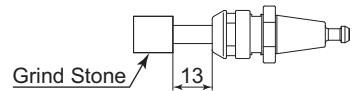

Fig. 17
- (1) The proper surface speed for general grindstones is 10 - 30m / s.
- (2) Do not exceed 13mm of overhang for mounted grindstones as shown in Fig. 17. If the overhang must exceed 13mm, reduce the motor speed in accordance with Table. 3.
- (3) Dress the grindstone prior to use.
- (4) Do not use cutting tools with bent or broken shanks, cracks or excessive run-out.
- (5) For grinding, the maximum depth of cut should not exceed 0.01mm radially or axially. Reciprocate the tool several times after each pass to eliminate tool pressure.
- (6) Always operate cutting tools within the allowable recommended speed of the cutting tools. Use of a cutting tool outside of the allowable speed of the cutting tools could cause damage to the Spindle and injury to the operator.
- (7) When replacing the tool, make sure the tool shank, collet, collet nut, and inner face of the collet holder are clean. If ground particles or metal chips stick to the inside of the collet, damage to the collet holder or Spindle can occur due to the loss of precision.
- (8) Do not strike or disassemble the Spindle.
- (9) Please set the cutting tools to minimize the overhang amount. 13mm is the maximum amount of overhang to maintain high accuracy and safety.